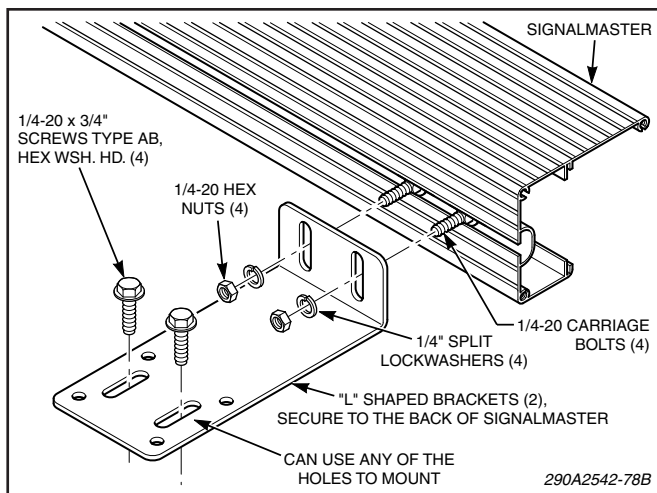

Figure 4.
a. See figure 4. Assemble the L-shaped brackets to the light assembly using the four 1/4-20 hex nuts and 1/4" split lockwashers. Do not tighten the nuts at this time.